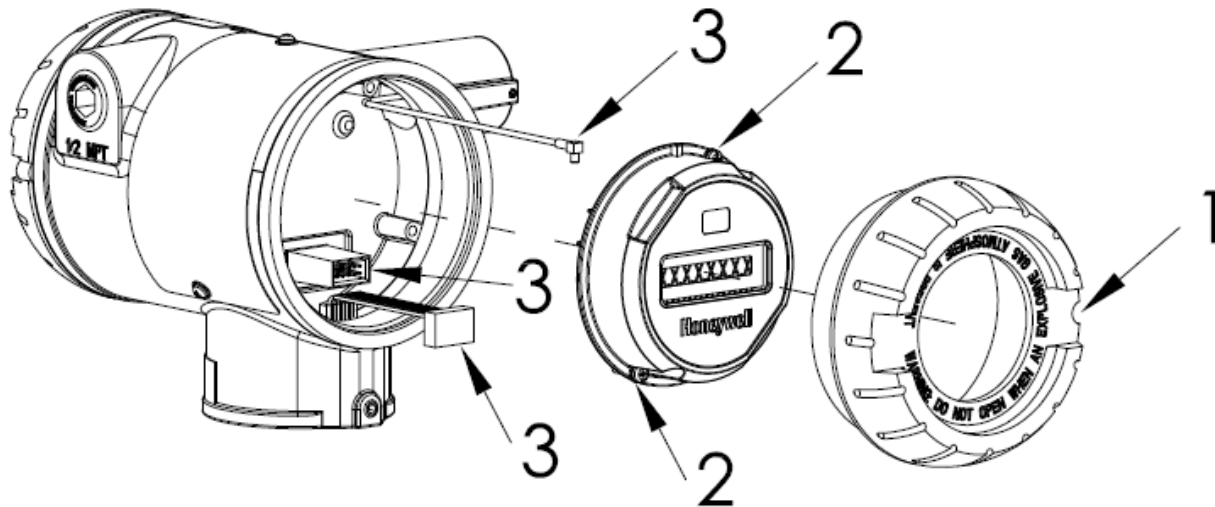

Figure 1 Electronic/Display Module Removal and Replacement
Step – 2: Loosen the M3 locking set screw on the display end-cap. See item 1 in Figure 1. Unscrew and remove the end cap.
Step – 3: Loosen the two screws on the electronic/display module. See items 2 in Figure 1.
Step – 4: Disconnect each connector on electronic/display module. See items 3 in Figure 1.